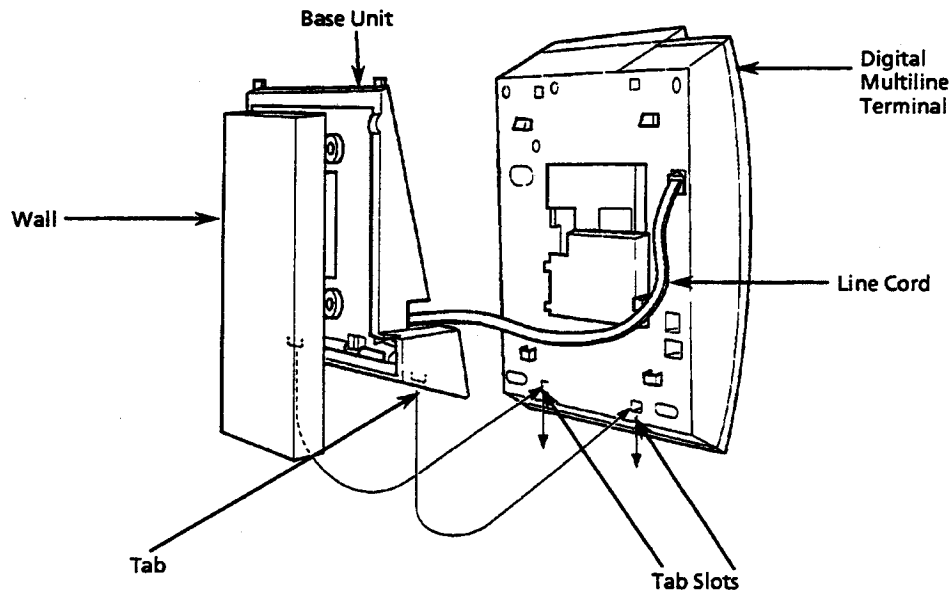

Figure 1-66 Attach Bottom Tabs of the Digital Multiline Terminal to the Base Unit
6. With the base unit attached to the wall, hook the two bottom tabs on the base unit in the tab slots on the Digital Multiline Terminal. Refer To Figure 1-66 Attach Bottom Tabs of the Digital Multiline Terminal to the Base Unit.